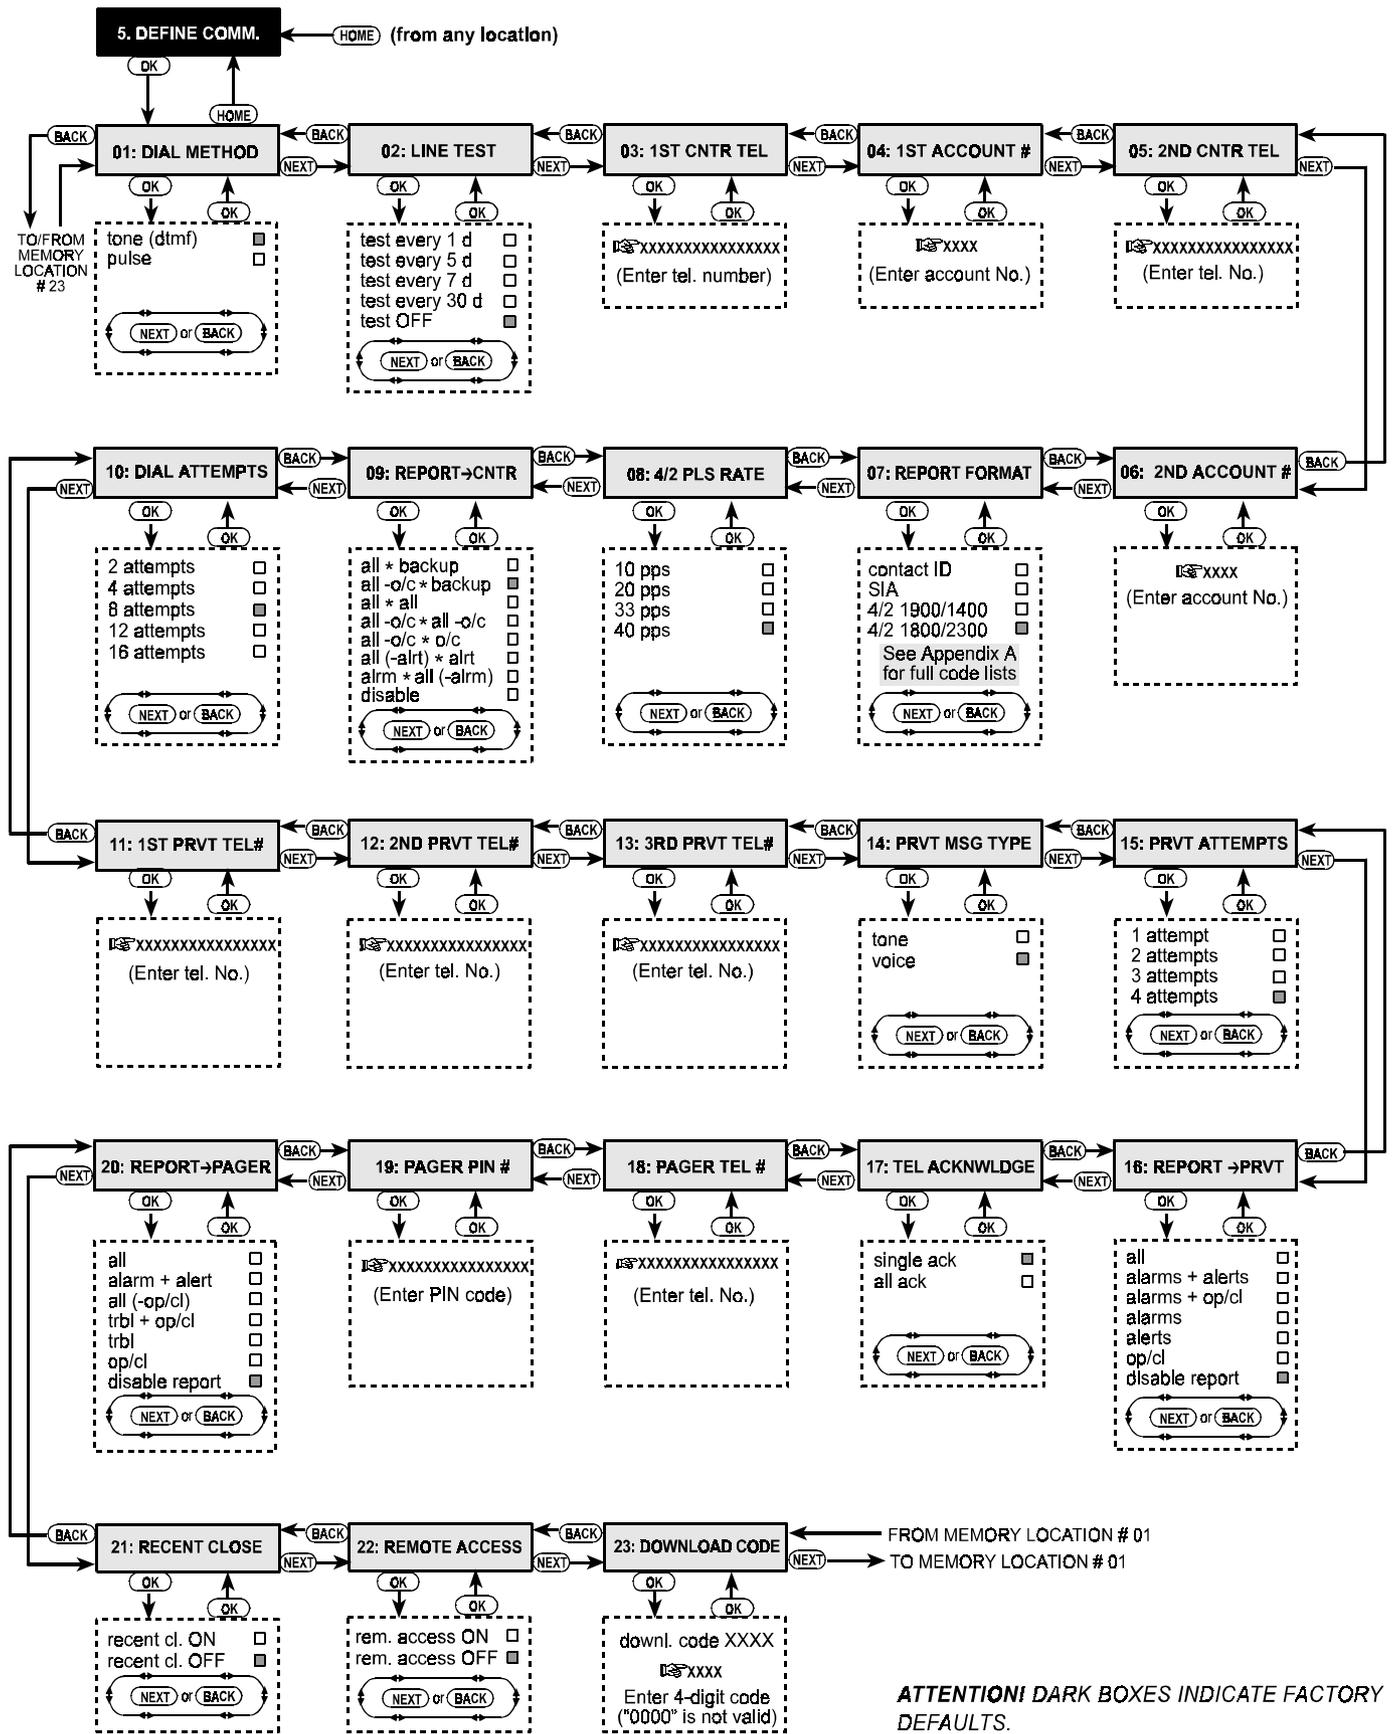

Figure 5. DEFINE COMM Flow Chart
**Should you wish to get an overall view of the entire process, refer to the programming chart in Figure 5. You may even use the chart as your only guide along the programming process, instead of going through the written step-by-step procedure.**
- Click **<NEXT>** or **<BACK>** until you reach the memory location you wish to access (see rectangles 01 to 23 in Figure 5).